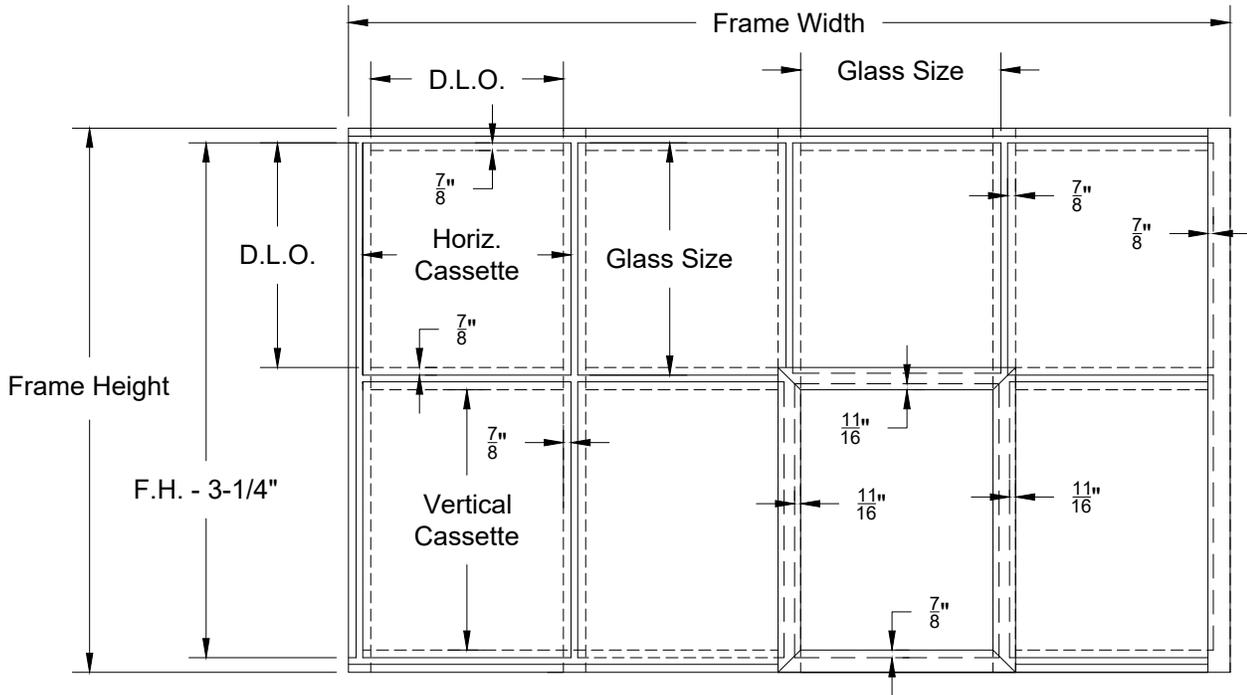

FIGURE 2
- 1.9 Cut material to size. SEE FIGURE 2, page 13 for guide. Glass bites and cut sizes are different for intermediate captured areas and typical 4-sided silicone glazed areas. Close attention to the layout for these areas is critical. SEE FIGURE 3, page 13 .
4-Sided bite = $\frac{7}{8}$ " Captured glass bite = $\frac{11}{16}$ " SEE FIGURE 2